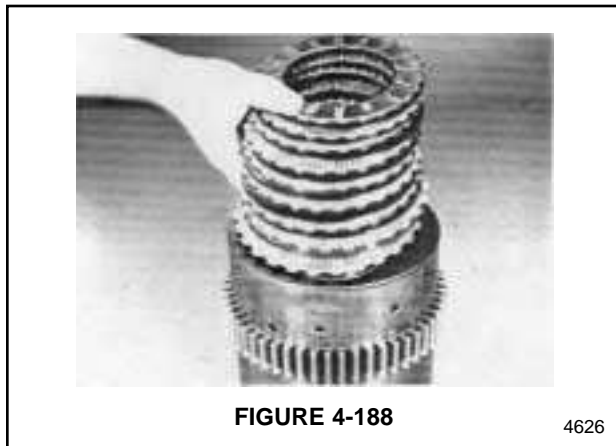

FIGURE 4-188
8. Assemble the K4 clutch pack. See Figure 4-188. Insert the first plate with outer teeth into the clutch carrier. Plates